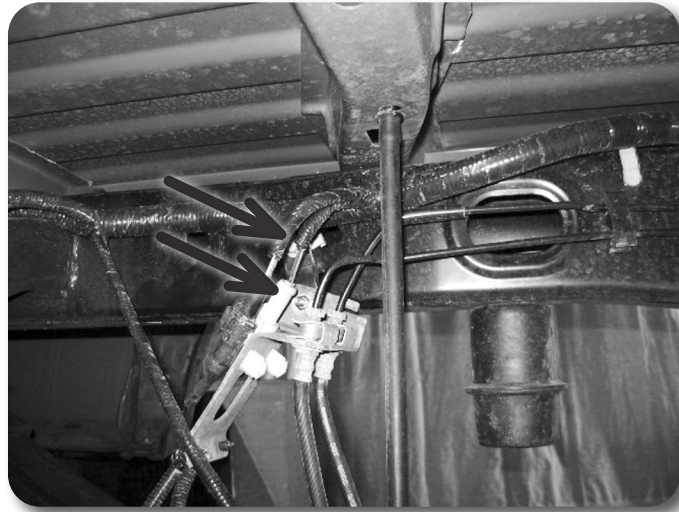

Figure 11
17. Install the provided brake line relocation bracket to the driver's side frame rail with the factory brake line bracket bolt **Figure 11**. Torque to 15 ft-lbs.